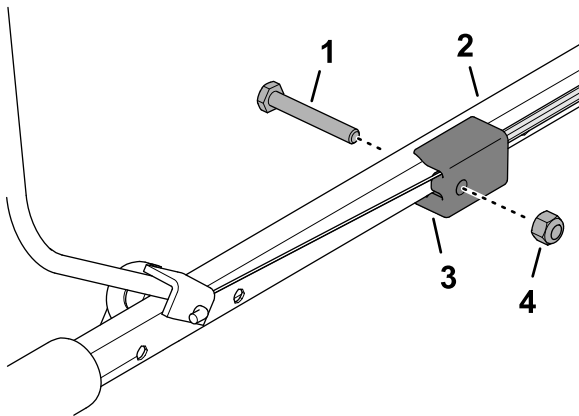

Figure 13
4. Insert the end of the operator-presence bail into the handlebar, squeeze the other leg of bail slightly, and insert the bail into the handlebar (Figure 13).